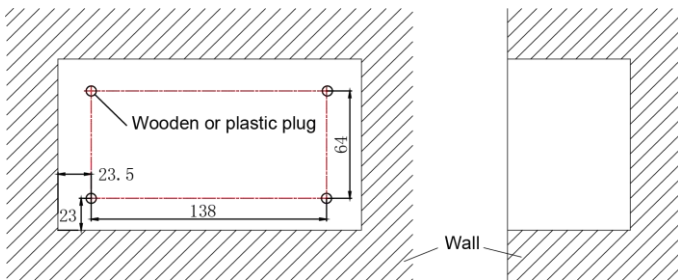

Fig.3.8 Diagram of Wooden or Plastic Plug
- 1) In case that the centralized controller is installed on wall, dig a hole that is the size of $180\text{mm} \times 107\text{mm} \times 62\text{mm}$ and peg 4 wooden or plastic plugs on the wall according to fig.3.8.